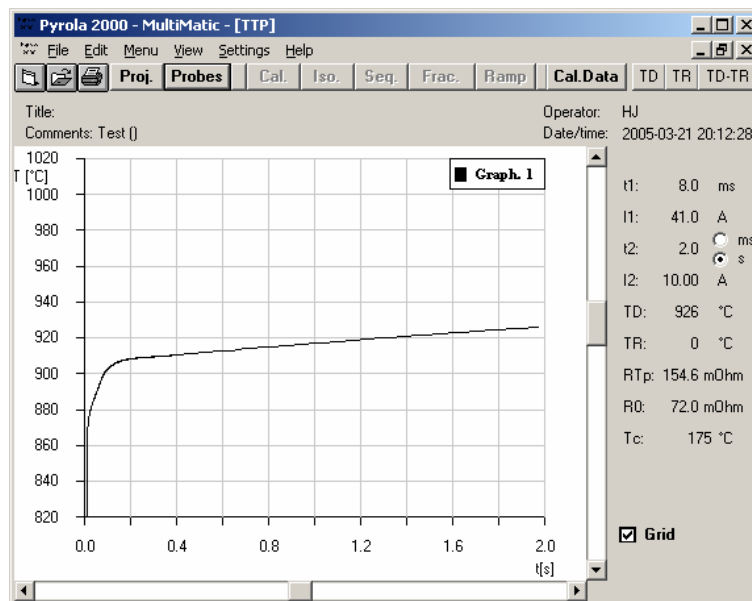

Figure I-2. TTP after the first pyrolysis.
- Click 'Start Py' to start a pyrolysis with the selected parameter settings. A diagram is displayed, see Figure I-2, which shows the temperature time profile (TTP) measured by the photo diode; the diode temperature TD. To the right of the diagram the final temperature TD = 926 °C is indicated; TR is zero because the filament has not been calibrated yet. This TTP is not 'ideal'. There is an under-shoot of $\approx 130^\circ\text{C}$, and the end temperature, TD, is $\approx 70^\circ\text{C}$ too low compared to the intended value between 975 and 1000°C. Both I1 and I2 need to be adjusted and increased.